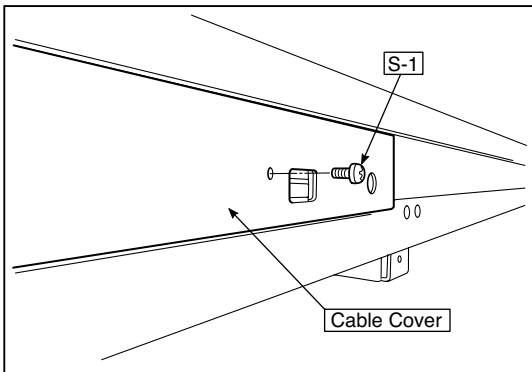

Fig.1
1) Remove the Main Board Assy. (See Figs. 1 and 2.)
1. Remove the "S-1" screws shown in the figure 1 and then remove the Cable Cover.